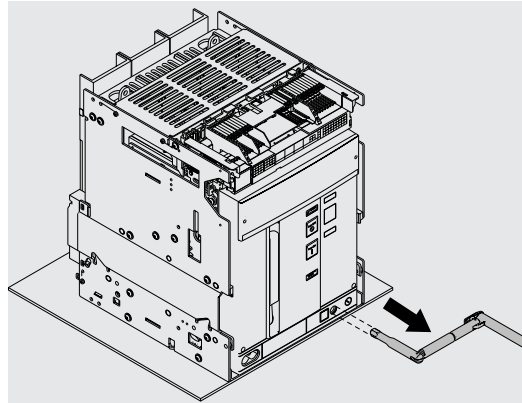

Figure 97
12. Extract the crank. See Figure 97.